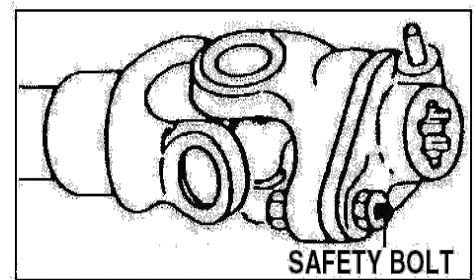

Fig. 10
1. The round baler is provided with a cardan drive shaft with torque limiter: in case of overload, it shears off the safety bolt preventing any parts from breaking (Fig. 10).